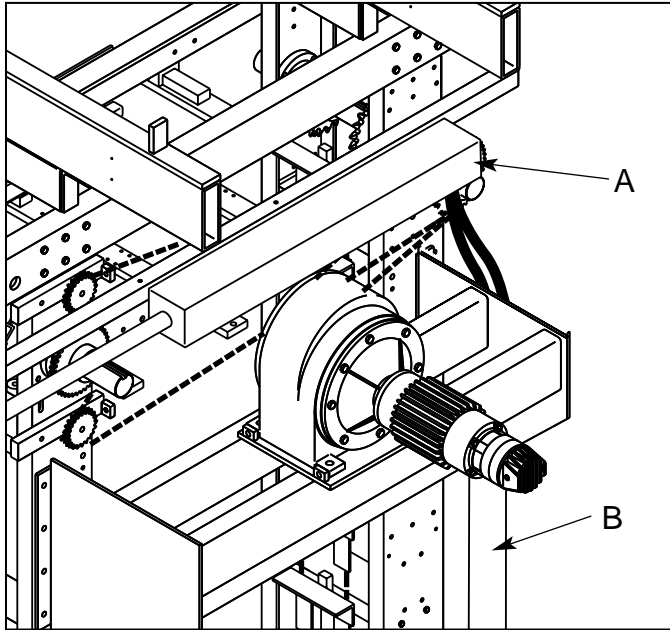

Figure 3.36 FRAME AND ACCUMULATOR RACEWAYS.
3.10.2.2 Wire frame raceways(A) to Accumulator raceway (B) (see figure 3.36).